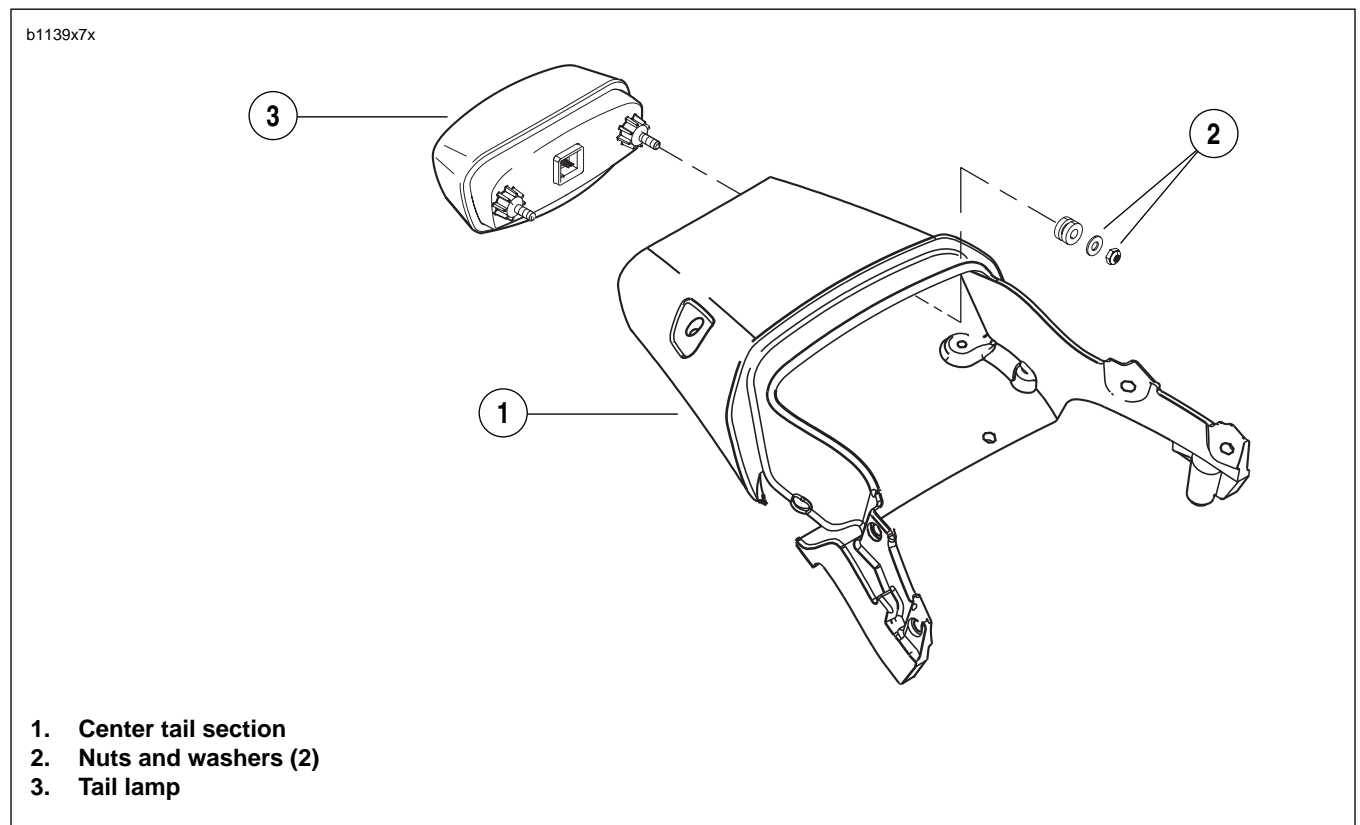

Figure 7-50. Tail Lamp Assembly
1. See Figure 7-50. Install tail lamp (3) with fasteners (2) to the center tail section (1). Tighten fasteners to 12-36 in-lbs (1.4-4 Nm).